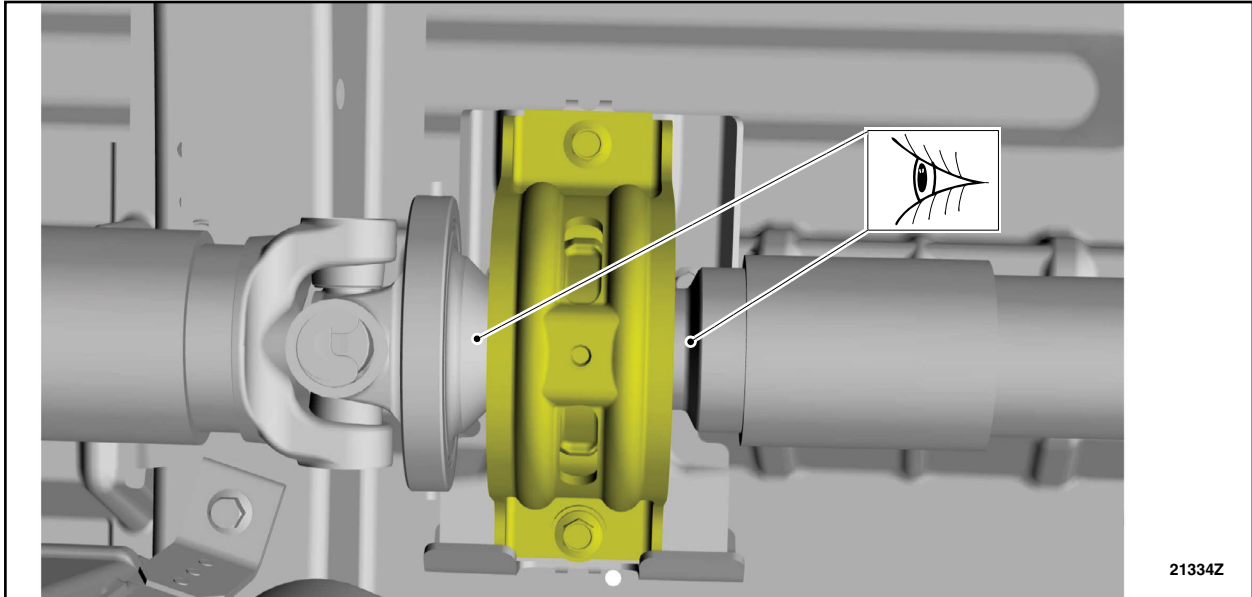

FIGURE 25
35. Check all center bearings alignment for bind, twist, or rub. See Figure 25.